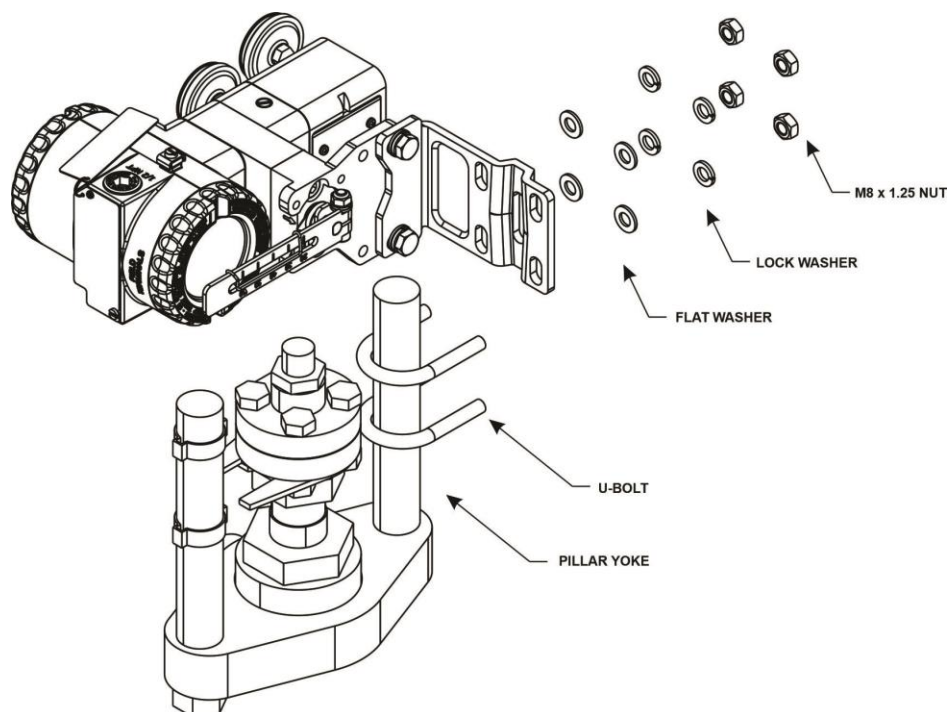

Figure 1.15 – Attachment to pillar yoke for U-bolt
- For actuator with pillar yoke for U-bolt application, using two U-bolt, four lock washers, and four flat washers, as shown in figure 1.15.